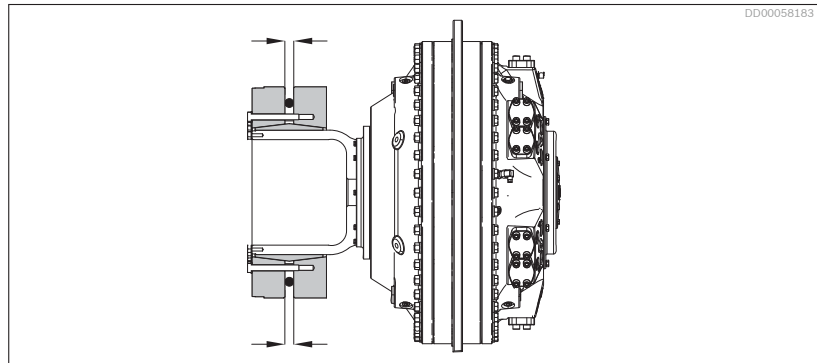
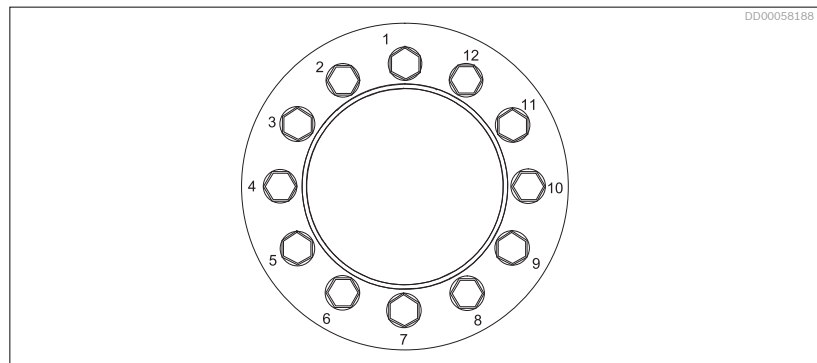

Fig. 40: Gap between the clamping rings
Fig. 41: Tightening order
5. Pull the coupling adapter onto the shaft by turning the nut on the assembly tool to stated depth (measures B, see Fig. 40: *Gap between the clamping rings* and Fig. 41: *Tightening order* and Table 22: *Clamping length*).
2. In order to avoid the misalignment of the two clamping rings during the screw tightening, the gap between the rings must be measured in several places during the process, see *Fig. 40: Gap between the clamping rings*. The difference between the measured gaps must never vary more than 1 mm (0,04") during any stage of the tightening process.
6. Start tightening the screws in sequence shown in *Fig. 41: Tightening order*.